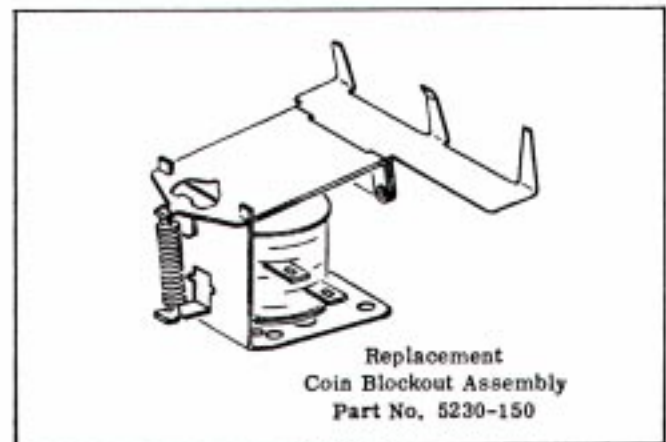

FIGURE 2
5. Install the replacement Coin Blockout Assembly, part number 5230-150 on the Rear Plate and attach the Assembly with the Screws removed in step 4 or with the two Screws included in the Kit. See Figure 2.